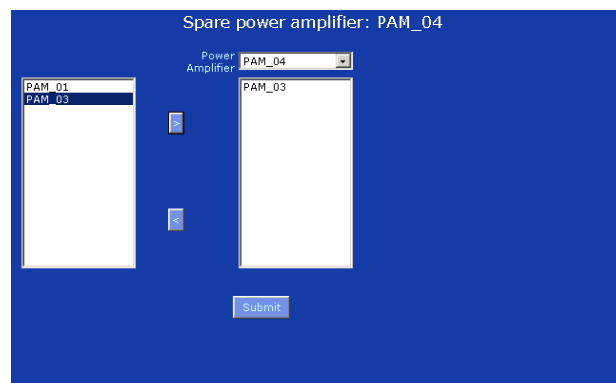

figure 36.19: Sparing, step 4
- 4 Double click the selected main amplifier or click the *>* button to assign the main amplifier to the spare amplifier. A screen similar to the one in figure 36.19 appears in the main frame of the web interface.